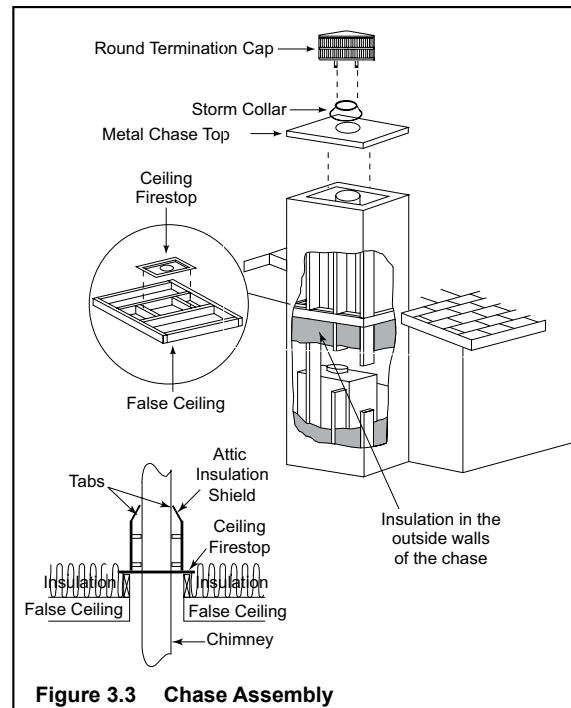

Figure 3.3 Chase Assembly
Walls, ceiling, base plate and cantilever floor at the first level of the chase should be insulated (see Figure 3.3.) Vapor and air infiltration barriers should be installed in the chase as per regional codes for the rest of the home. Additionally, Hearth & Home Technologies recommends that the inside surfaces be drywalled and taped (or the use of an equivalent method) for maximum air tightness.
- In cold climates, the walls of the chase should be insulated to the level of the false ceiling as shown in Figure 3.3. This will help reduce heat loss from the home around the fireplace.